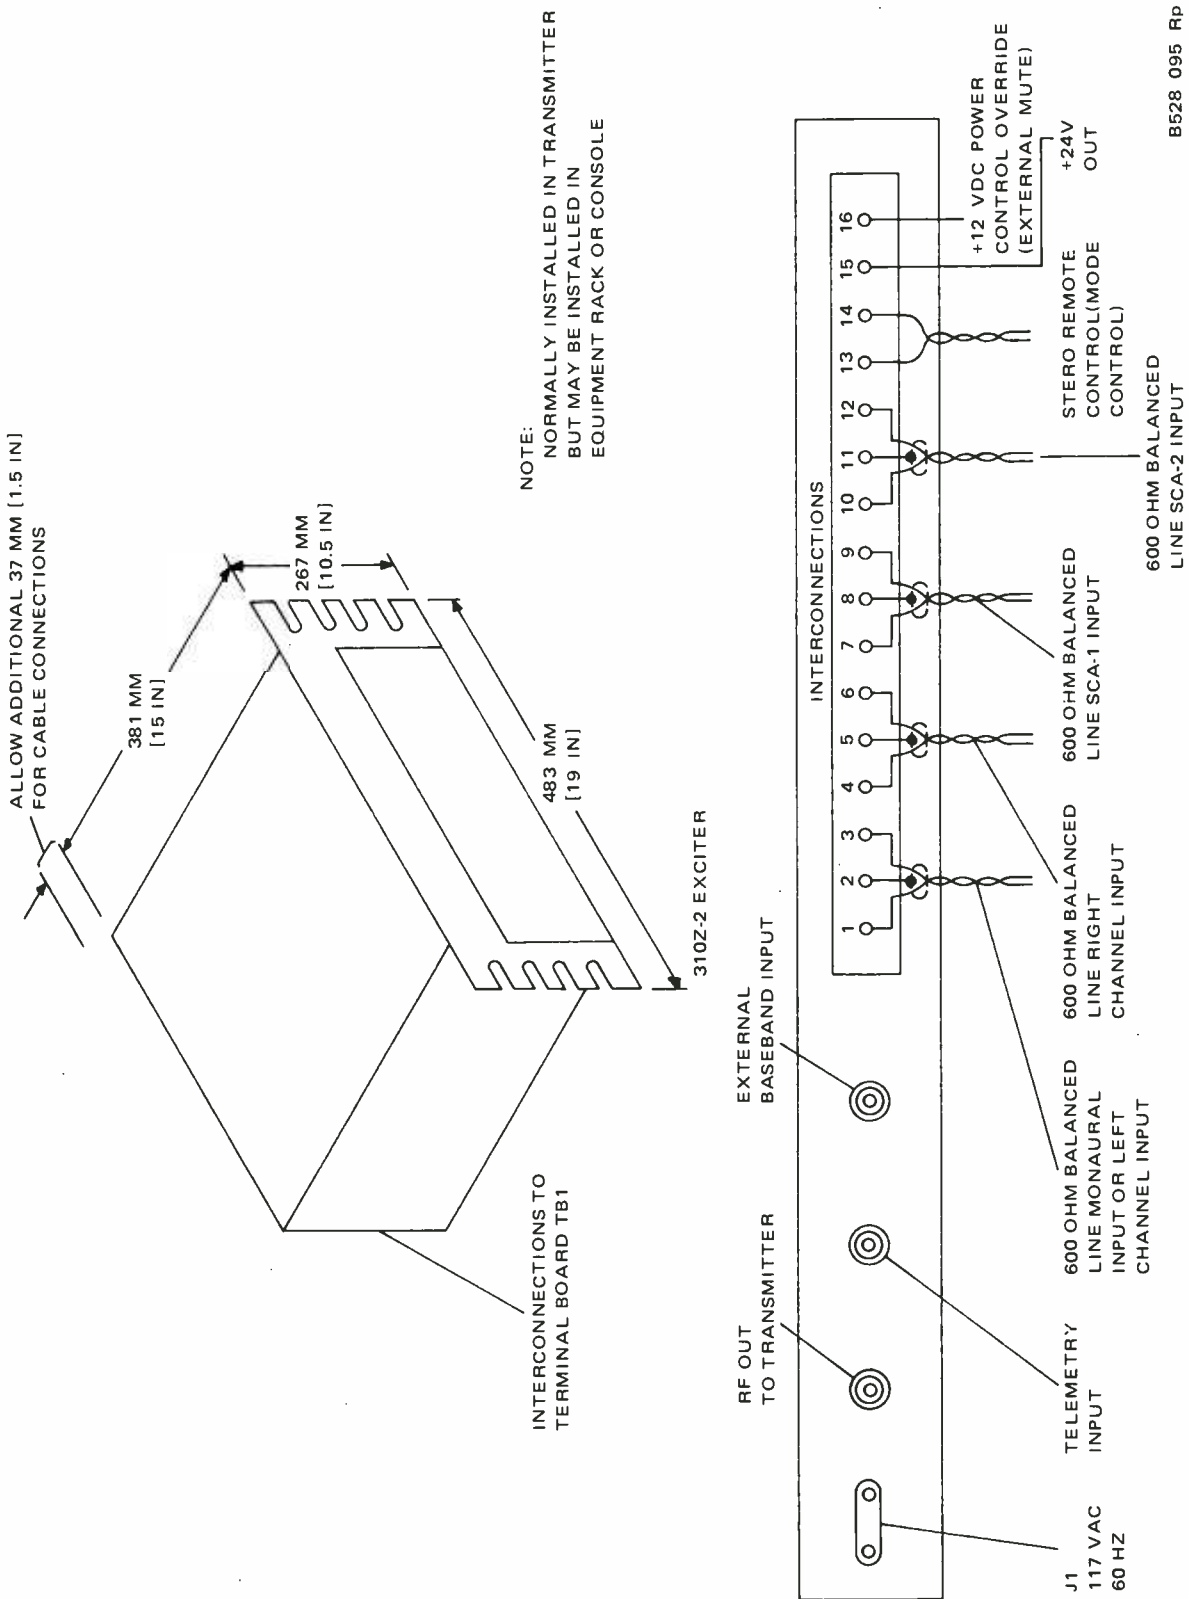

Figure 2-1. 310Z-2 FM Exciter, Outline Dimensions and Installation Details.
Use only balanced 600-ohm audio inputs to the 310Z-2. Use only twisted, shielded parts for input cables. (See figure 2-1.)
- a. Monaural Inputs - Connect the monaural audio input line to TB1-1 and TB1-3. Connect the cable shield to TB1-2. (See figure 2-1.)
- b. Stereophonic Inputs - Connect the left channel audio input line to TB1-1 and TB1-3. (See figure 2-1.) Connect the cable shield to TB1-2. Connect the right channel audio input line to TB1-4 and TB1-6. Connect the cable shield to TB1-5. Be sure that the 786V-1 Stereo Generator is plugged into the 310Z-2.